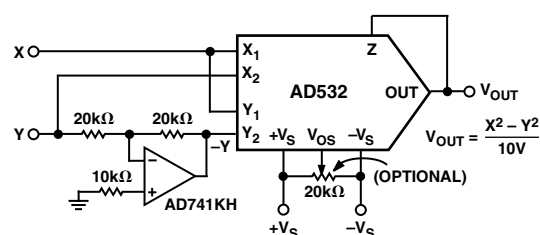

Figure 15. Differential of Squares Connection
The differential input capability of the AD532 allows for the algebraic solution of several interesting functions, such as the difference of squares, $X_2 - Y_2/10 \text{ V}$. As shown in Figure 15, the AD532 is configured in the square mode, with a simple unity gain inverter connected between one of the signal inputs (Y) and one of the inverting input terminals ($-Y_{IN}$) of the multiplier. The inverter should use precision (0.1%) resistors or be otherwise trimmed for unity gain for best accuracy.